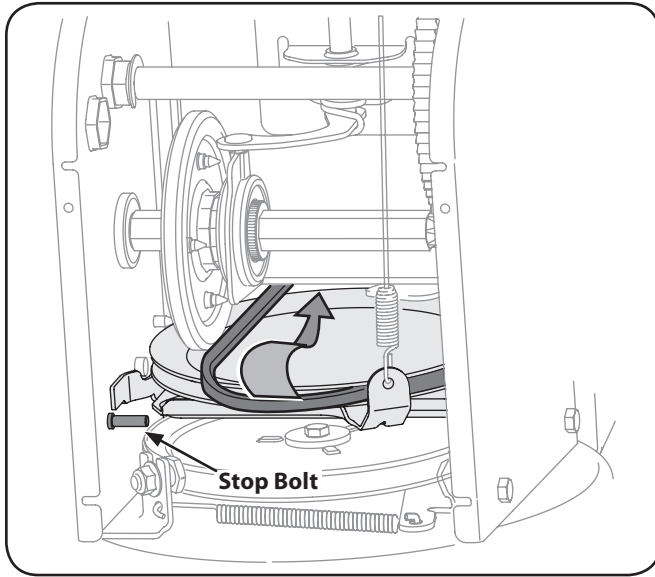

Figure 7-7
- Back out the stop bolt to increase the clearance between the friction wheel disc and friction wheel. See Figure 7-7.
- Slip the drive belt off the pulley and between friction wheel and friction wheel disc. See Figure 7-7.